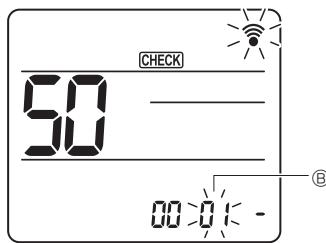

Fig. 6-20
- ④ Select a mode
Press the **▲** button to set Mode number ⑤. (Fig. 6-20)